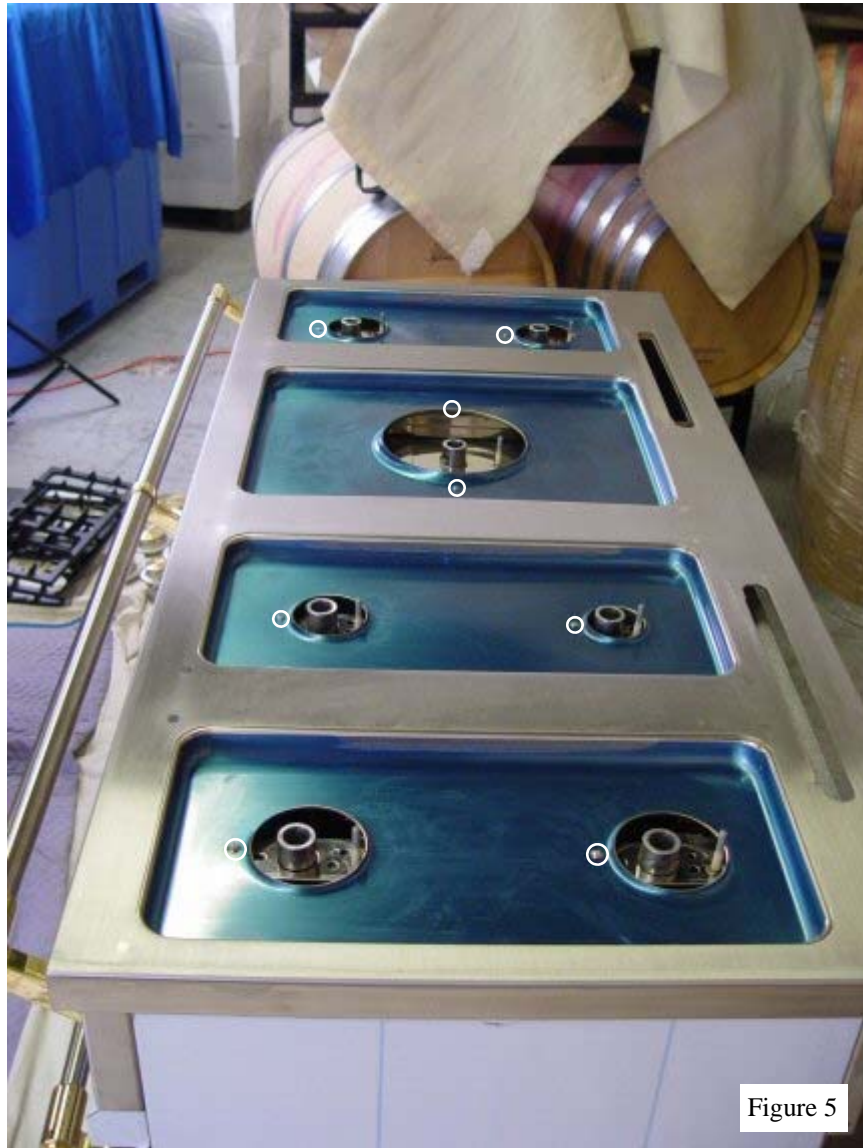

Figure 5
3. Remove all of the oval headed stainless steel screws near each burner assembly. (Figure 5)